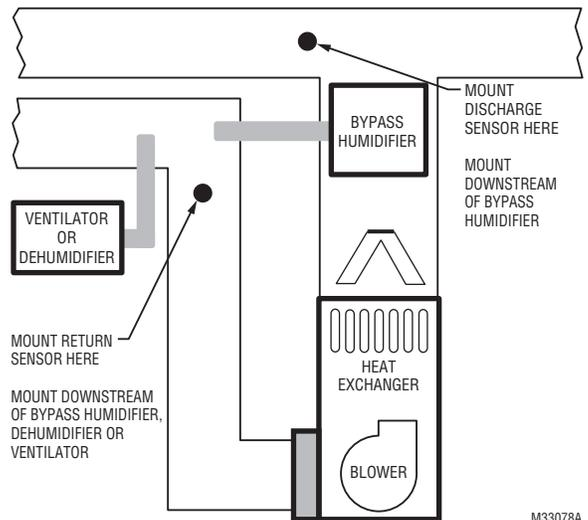

Fig. 13.
- If a Bypass Humidifier is installed, mount the Discharge Air Temperature Sensor downstream of the Bypass Humidifier. See Fig. 13–14.